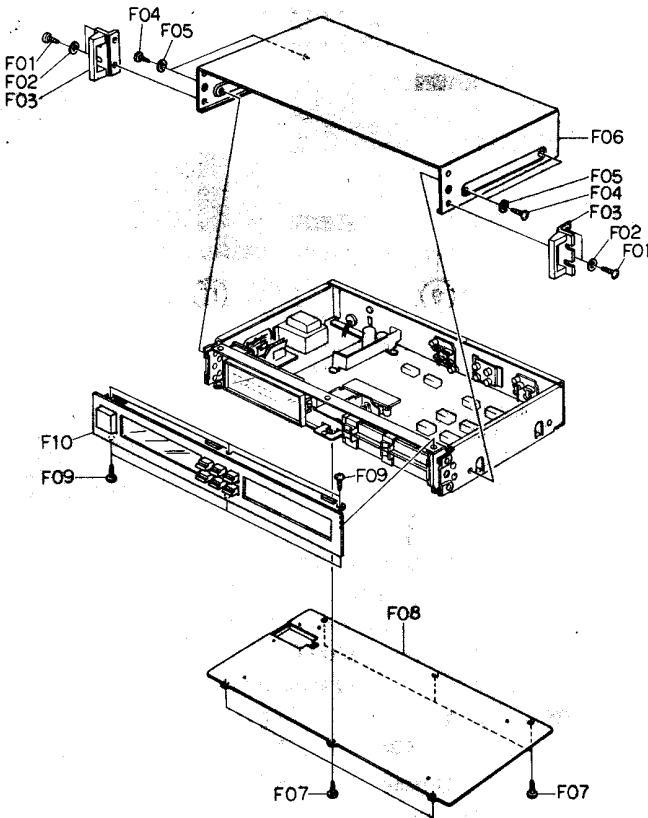

Fig. 2.1
Refer to Fig. 2.1.
- (1) Refer to Fig. 2.1. Remove Front Panel Ass'y referring to item 2.4.
- (2) Remove F01 and F02, then disassemble F03 (Front Chassis Ass'y).
- (3) Remove F04, then disassemble F05 (Slide Volume Ass'y).
- (4) Remove F06, then disassemble F07 (Volume Knob Ass'y).
- (5) Remove F08, then disassemble F09 (Volume Holder) and F10 (Volume P.C.B. Ass'y).
- (6) Remove F11, then disassemble F12 (Indicator Ass'y).
- (7) Remove F13, then disassemble F14 (Indicator Cover).
- (8) Remove F15, then disassemble F16 (Indicator P.C.B. Ass'y) and F17 (Indicator Holder).
- (9) Remove F18, then disassemble F19 (Lamp P.C.B. Ass'y).
- (2) Pull out F01 (Volume Knob). Remove F02, then disassemble F03 (Calibration Volume Ass'y).
- (3) Remove F04, F05, F07 and F08, then disassemble F06 (Volume) and F09 (Volume).
- (4) Remove F10, F11 and F12, then disassemble F13.
- (5) Remove F14, then disassemble F15 (Dolby NR Switch P.C.B. Ass'y) and F16 (Main P.C.B. Ass'y).
- (1) Refer to Fig. 2.1. Remove Top Cover Ass'y referring to item 2.2.
- (2) Remove F17 and F18, then disassemble F19 (Power Transformer).
- (3) Remove F20, then disassemble F21 (Insulator) and F22 (Fuse P.C.B. Ass'y).
- (2) Remove F23, then disassemble F24 (Power Switch).
- (1) Refer to Fig. 2.1. Remove Top Cover Ass'y and Bottom Cover Ass'y referring to items 2.2 and 2.3.
- (2) Remove F25, then disassemble F26 (Rear Panel Ass'y).